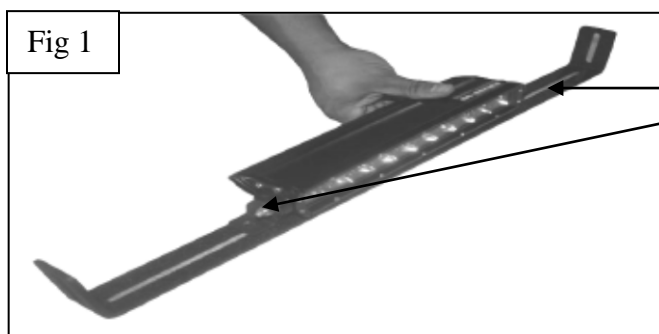

Fig 1
1. Start by Selecting your LED light (Sold Separately) mounting hardware & brackets, you will need to first attached the hardware to the support flange, (Example of LED light attached Fig 1) NOTE: if you have your own LED light, LED Manufactures will have similar but different mounting styles or brackets, once you determine you mounting options attach it to the support flange as seen in (Fig1).
- a. Remove the factory tow hook from the end of each frame channel, **(Figure 1)**. **NOTE:** The driver side tow hook removal is difficult and assistance is highly recommended.
(Fig 1) Opening for tow hook pictured